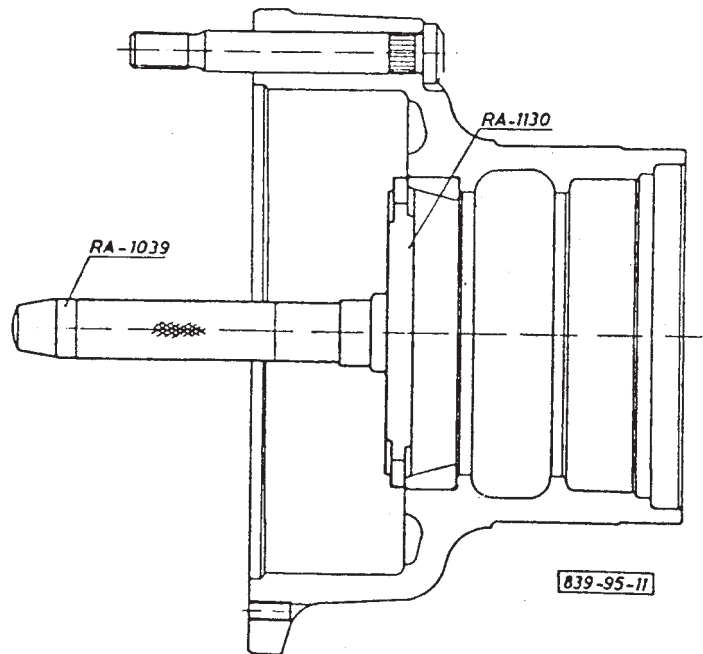

Fig. 2.: PRESSING IN THE CUPS OF THE TAPER ROLLER BEARINGS
By means of the tools shown in Fig. 2. press the cup of the outer taper roller bearing (34) into the wheel hub. Turn the wheel hub over and by means of the same tools